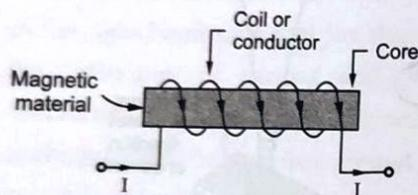

Fig. 1.8.9 (a) Solenoid
- Solenoid with a steel or iron core is shown in Fig. 1.8.9 (a).